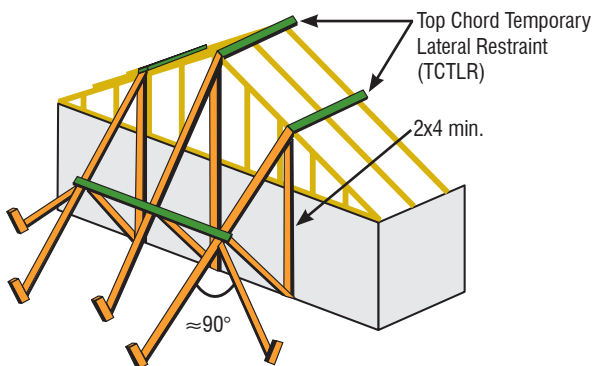

FIGURE B1-16
- Exterior Ground Bracing ties the first set of trusses off to a series of braces that are attached to stakes driven into the ground and securely anchored. The ground brace itself should be supported as shown in Figures B1-16 and 17 or it is apt to buckle. Additional Ground Braces, placed inside the building in the opposite direction, are also recommended.